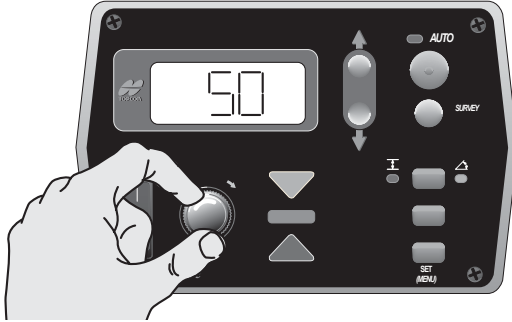

Figure 4-34. Select Value
2. Turn the Grade Adjustment Knob to select the desired value (Figure 4-34).